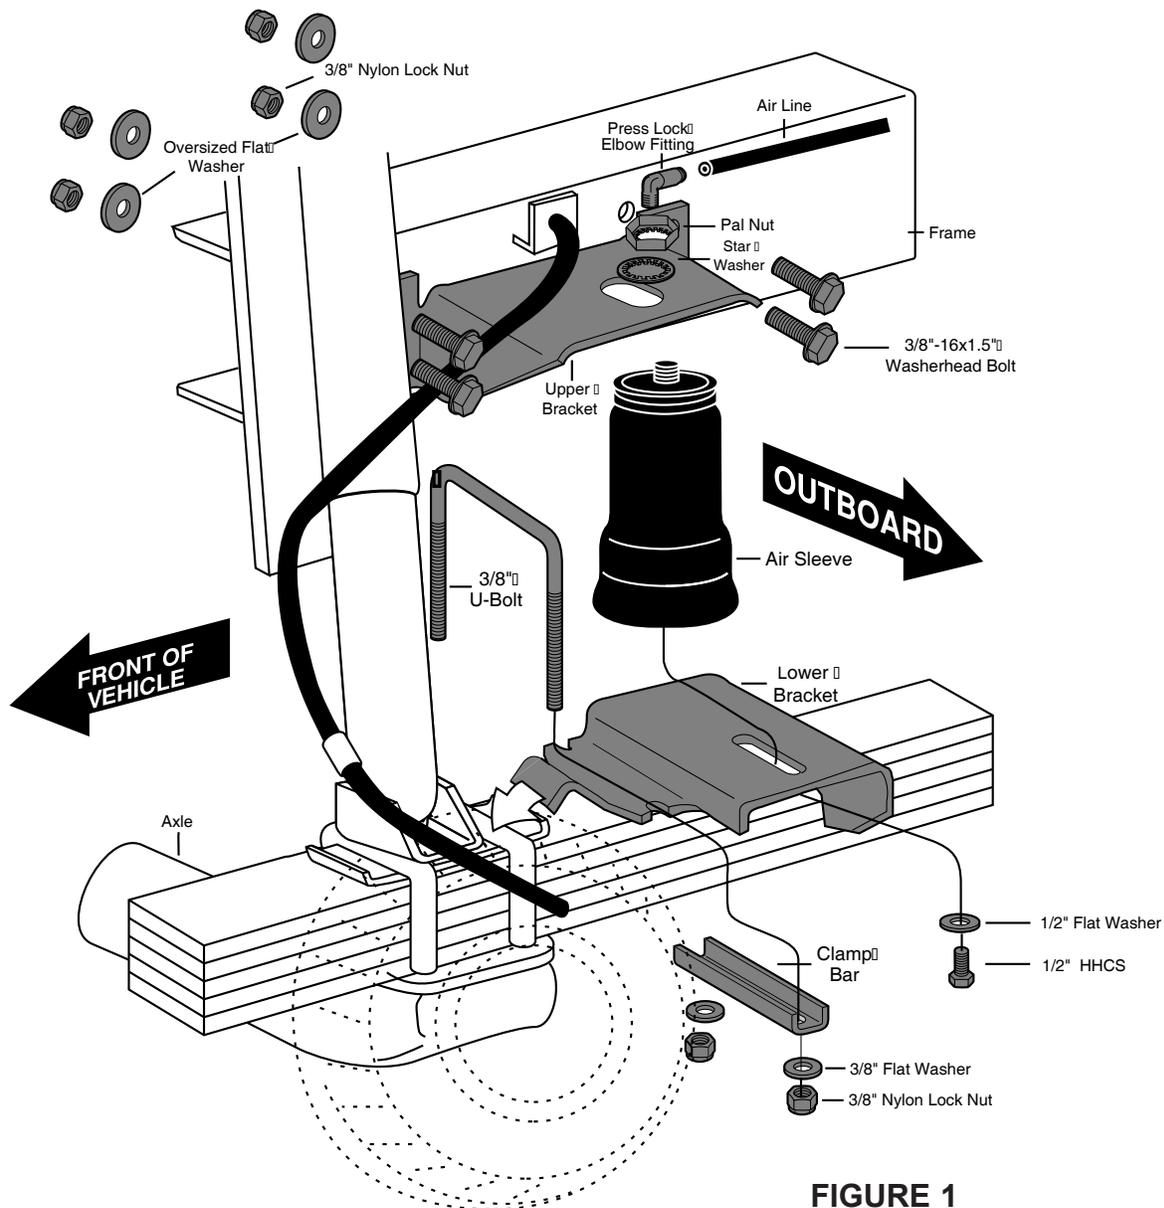
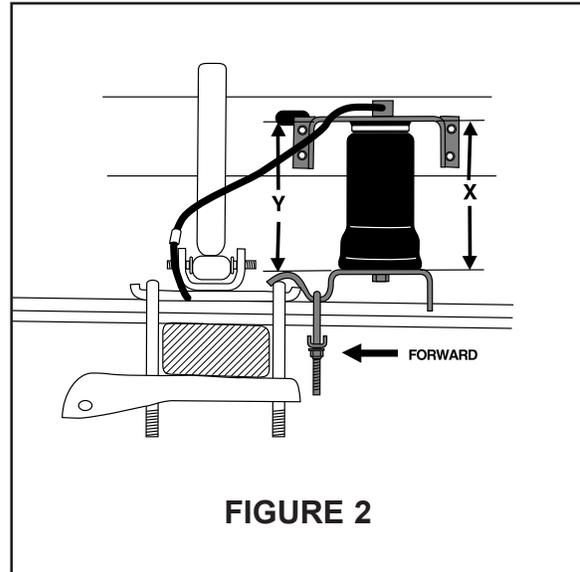
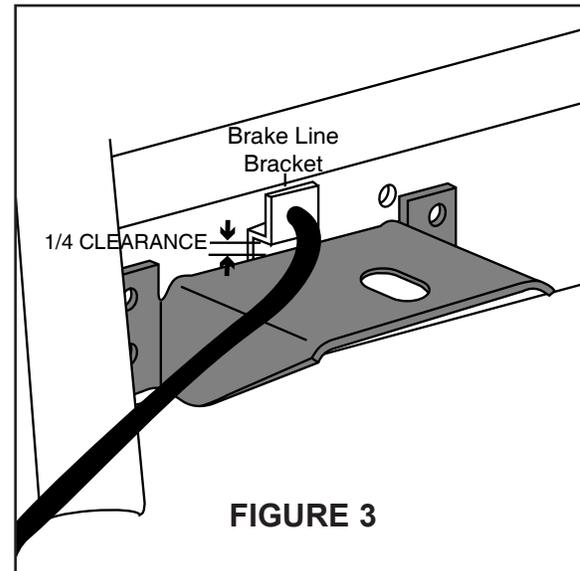
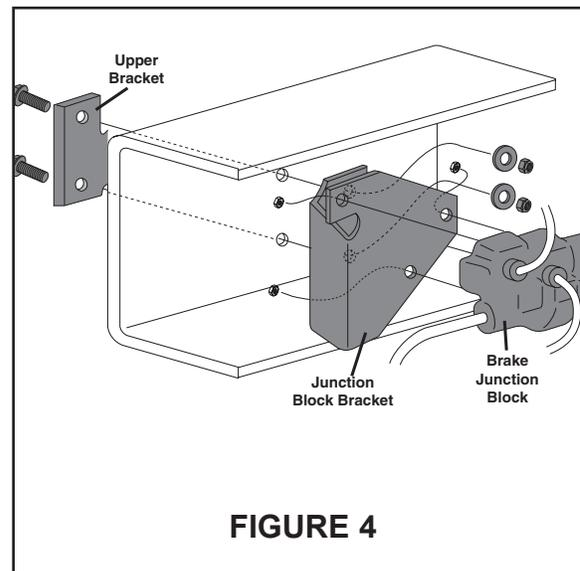

FIGURE 1
FIGURE 2
FIGURE 3
FIGURE 4
1. Jack up front of vehicle or raise on hoist and remove front wheels. If there is a brake injunction block on the inside of the driver side frame rail, unbolt and pull valve out of the way. Save existing nuts for later use (Figure 4).
2. Attach top bracket to sleeve using star washer and nut, leave loose for later adjustment (Figure 1). LOOSELY attach the lower bracket to the bottom of the sleeve. Using the provided 1/2" flat washer and the 1/2" HHCS bolt (Figure 1). Note: Bottom brackets are left and right hand units. Slot faces outside of vehicle.
3. Set unit on the leaf spring with the tab of the lower bracket over the u-bolt (Figure 2). **THE LOWER BRACKET MUST BE OVER THE U-BOLT NOT THE SPRING RETAINER PLATE.** Attach to the leaf spring with u-bolt, clamp bar, flat washers, and locknuts, mount and tighten nuts to 20 ft.lbs (Figure 1).
4. Mount the upper bracket approximately 1/4" underneath the brake line bracket on the frame rail (Figure 3). Using the bracket as a template, mark two holes on each side of the bracket to be drilled. X and Y dimensions (Figure 2) should be equal. The sleeve should be mounted so that it follows the natural arc of the suspension through its full travel (Figure 1). Remove the upper bracket and drill your four 3/8" holes.
5. **NOTE:** If you had a brake injunction block use existing nuts, attach to bracket supplied. Then using upper bracket mounting hardware attach upper bracket and brake bracket as an assembly (SEE Figure 4). Install the upper bracket onto frame rail with the provided 3/8 bolts, washers, and locknuts and tighten 20 ft-lbs (Figure 1).